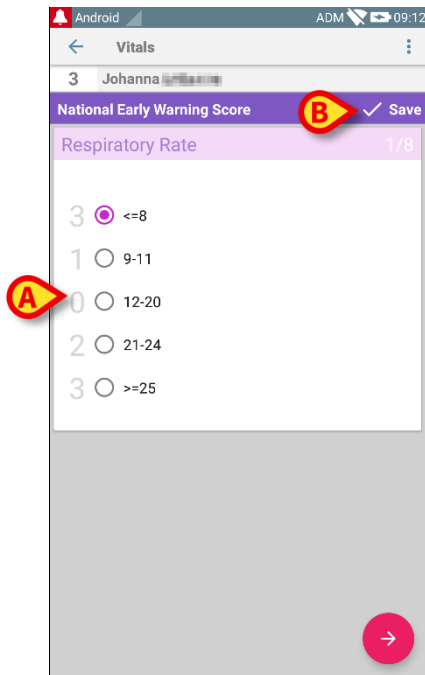

Fig 73
The data entry screen will open (Fig 73).
- Edit data (Fig 73 **A**).
- Touch **Save** (Fig 73 **B**).